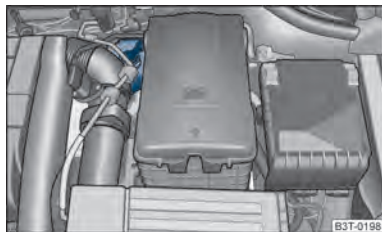

Fig. 175 Engine compartment: Brake fluid reservoir
- Inspect the brake fluid level in the reservoir ⇒ fig. 175. The level must be between the “MIN” and “MAX” markings.